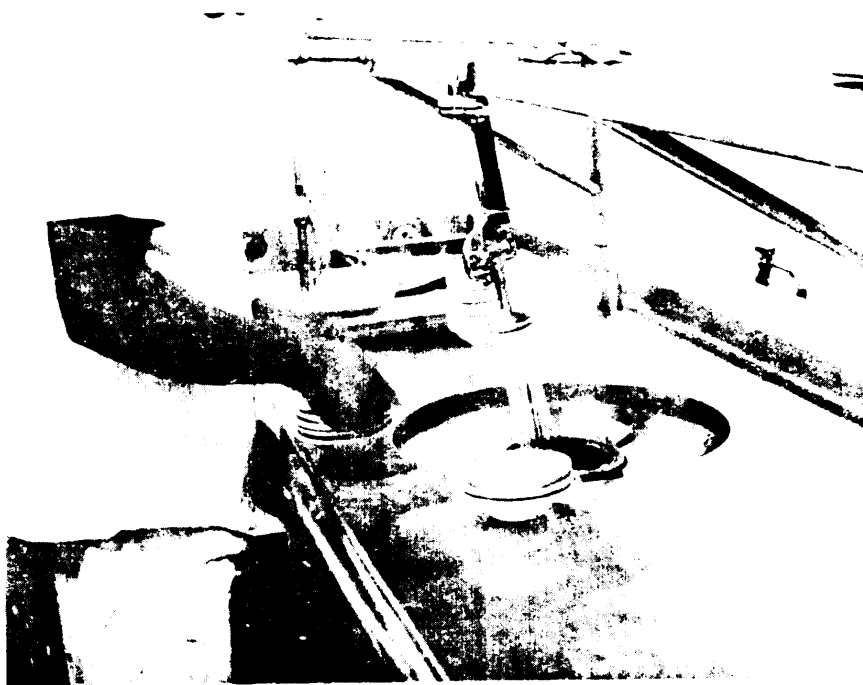

Figure 17 - Garbage Disposal/Flushing Attachment
b. Garbage disposal/flushing attachment (Figure 17).- Food particles are rinsed off tableware and serving trays by means of a prerinse unit and are disintegrated in the garbage disposal.